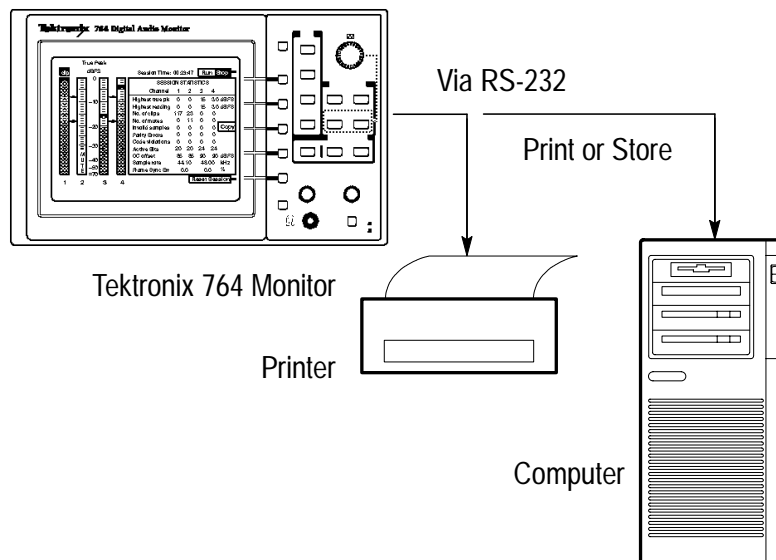

Figure 6: Outputting a session report
- Output a record of the input signal and program, either to an ASCII printer or a personal computer (see Figure 6) running a communications application, such as PROCOMM or the Terminal accessory of Microsoft Windows. Refer to *Session Reports* beginning on page 34.